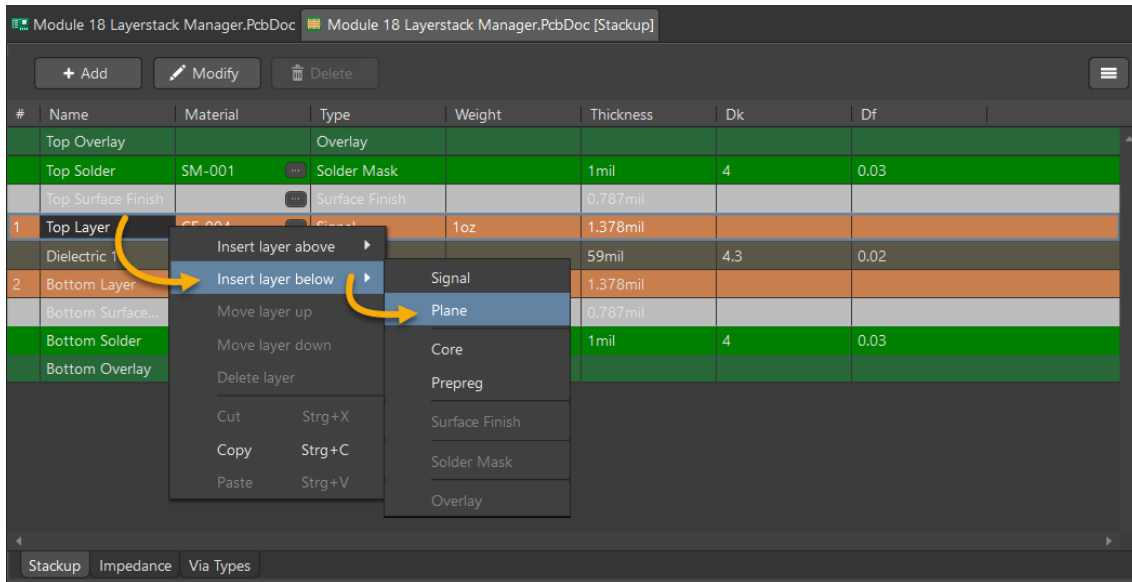

Figure 3. Adding Plane Layers
14. Right click on *Top Layer*, select **Insert layer below » Plane** as shown in Figure 3 below.